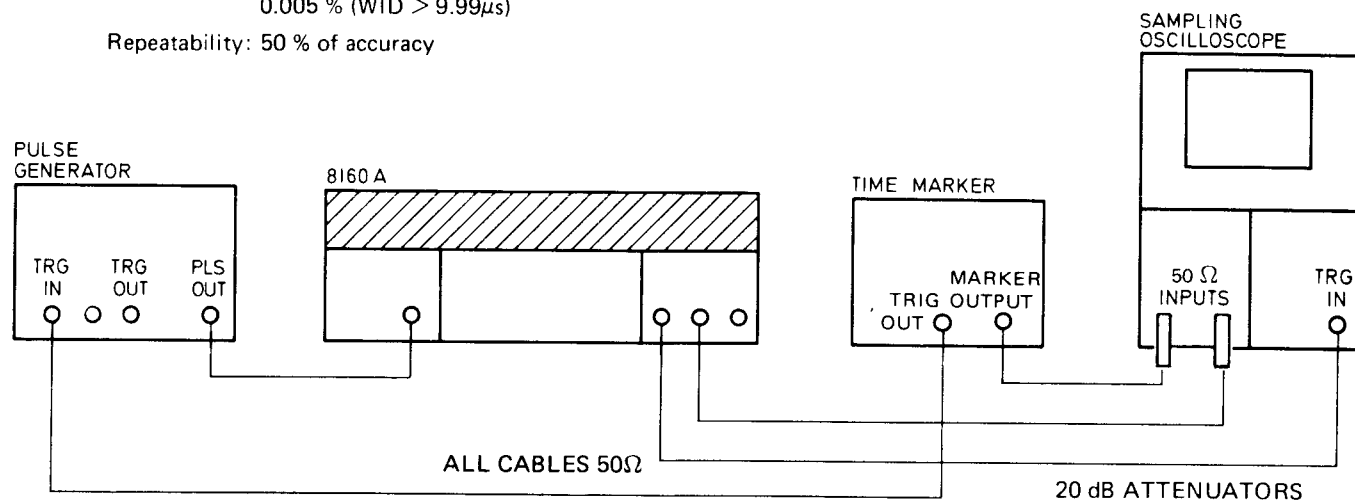

Figure 4-11. Width Test Set-up
1. Connect equipment as shown in fig. 4-11.